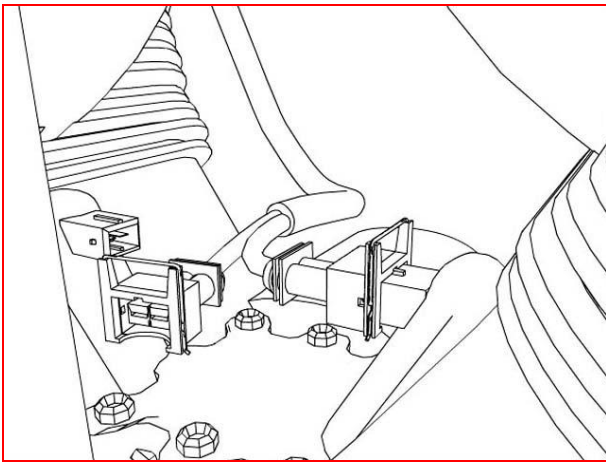

Figure 8
8. View from right. Depress the locking bails and remove the injector connectors. Rear first, then front. Do not pull the wires. (see figure 8,9)